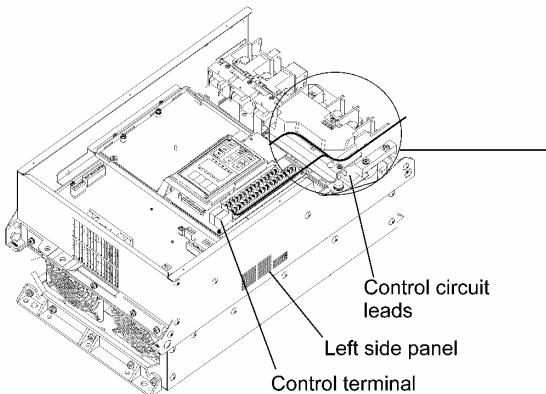

Figure 2-3-13
- (a) Pull the wiring out along the left side panel of the inverter as shown in Figure 2-3-13.